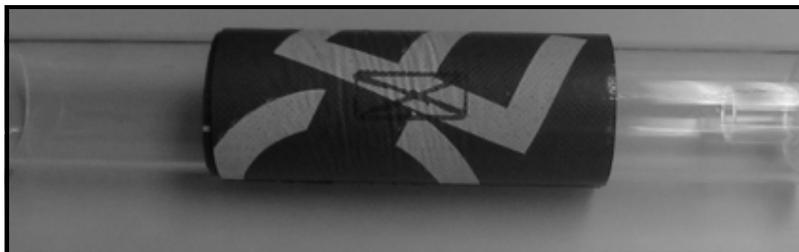

Figure 1-23: DMP-1 Material with Transducer Footprint Traced
7. With a marker, trace around the transducer footprint, as shown in Figure 1-23 below.